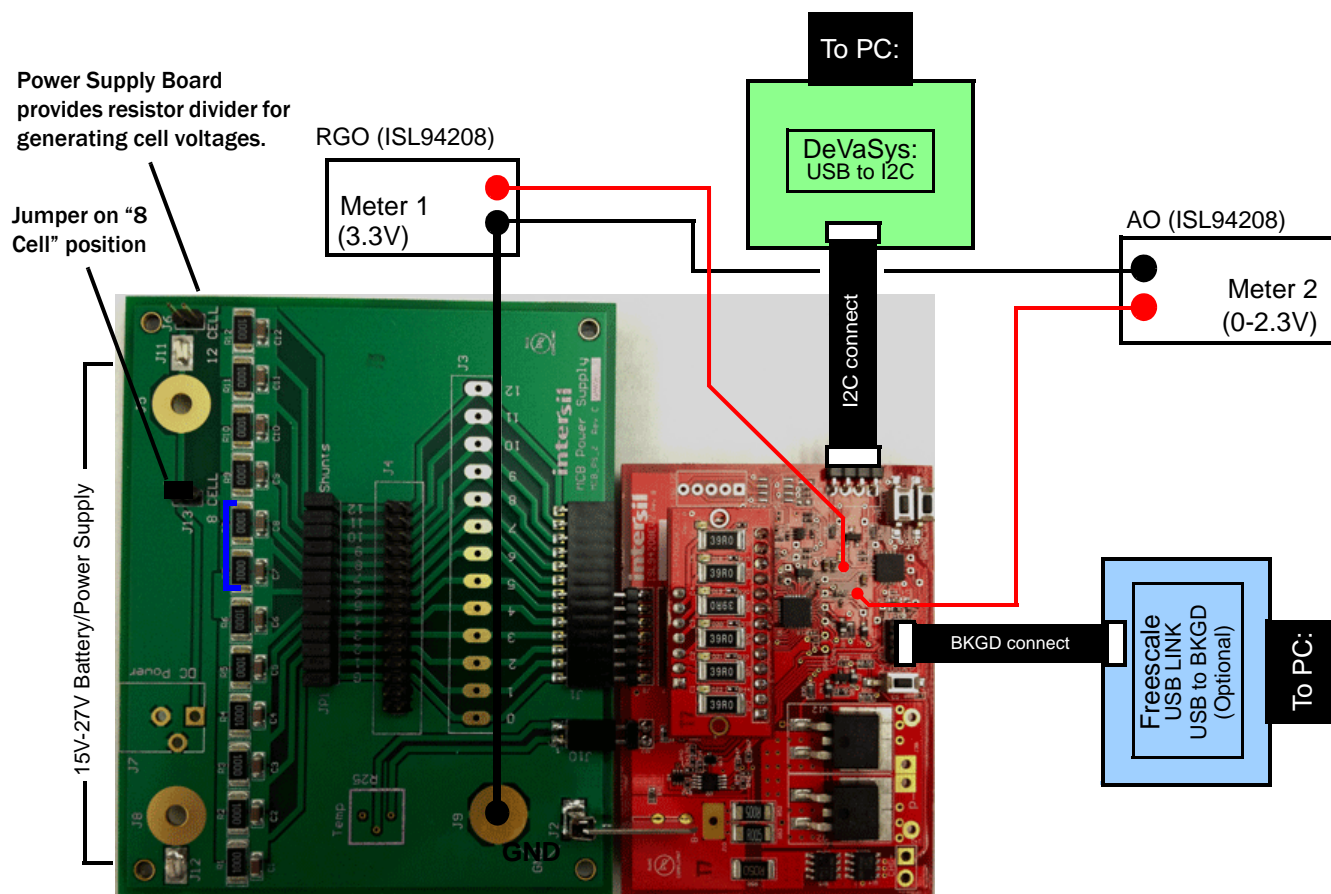
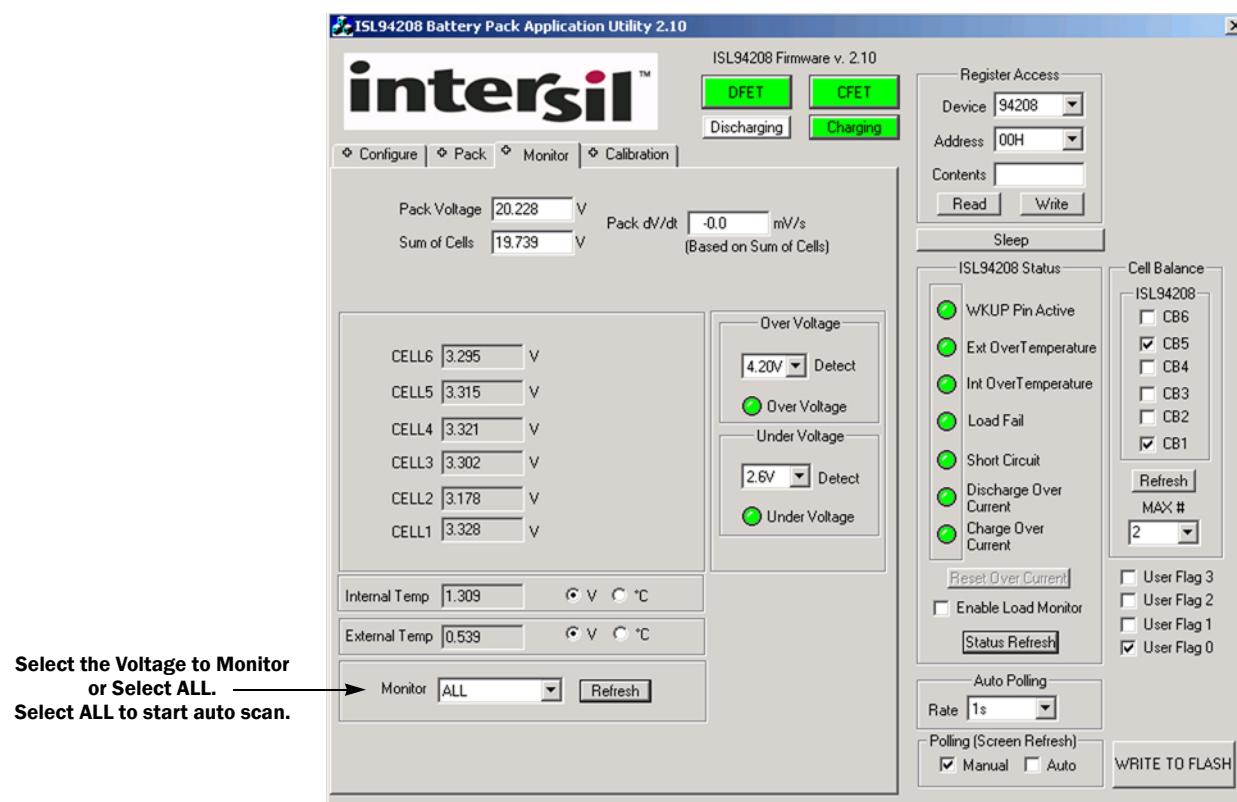

FIGURE 4. ISL94208EVZ Evaluation board test connection
FIGURE 6. ISL94208 GUI MONITOR TAB
Setup (See Figure 4)
- Figure 4 shows a green board that connects between a power supply and the evaluation board. This multi-option board supports the connection a single power supply (using an on-board resistor divider,) or separate power supplies for each input, or battery cells.
- Before connecting the PC to the ISL94208EVZ board (through the USB to I2C interface) turn off the power supply and then plug the ISL94208EVZ board into the power supply board (as shown in Figure 4).
In normal operation, the cell voltages are scanned four times per second. So, if monitoring the AO voltage (as shown in Figure 4), the meter will not be stable, since it sees an output of a series of voltages. A scope can be used to monitor the AO output, or use the GUI to select a specific voltage or temperature. This operation by the GUI stops the microcontroller from automatically scanning the voltages and puts the selected voltage on AO constantly. Automatic scanning will not start again until the GUI selects Monitor "All". (See Figure 6.)